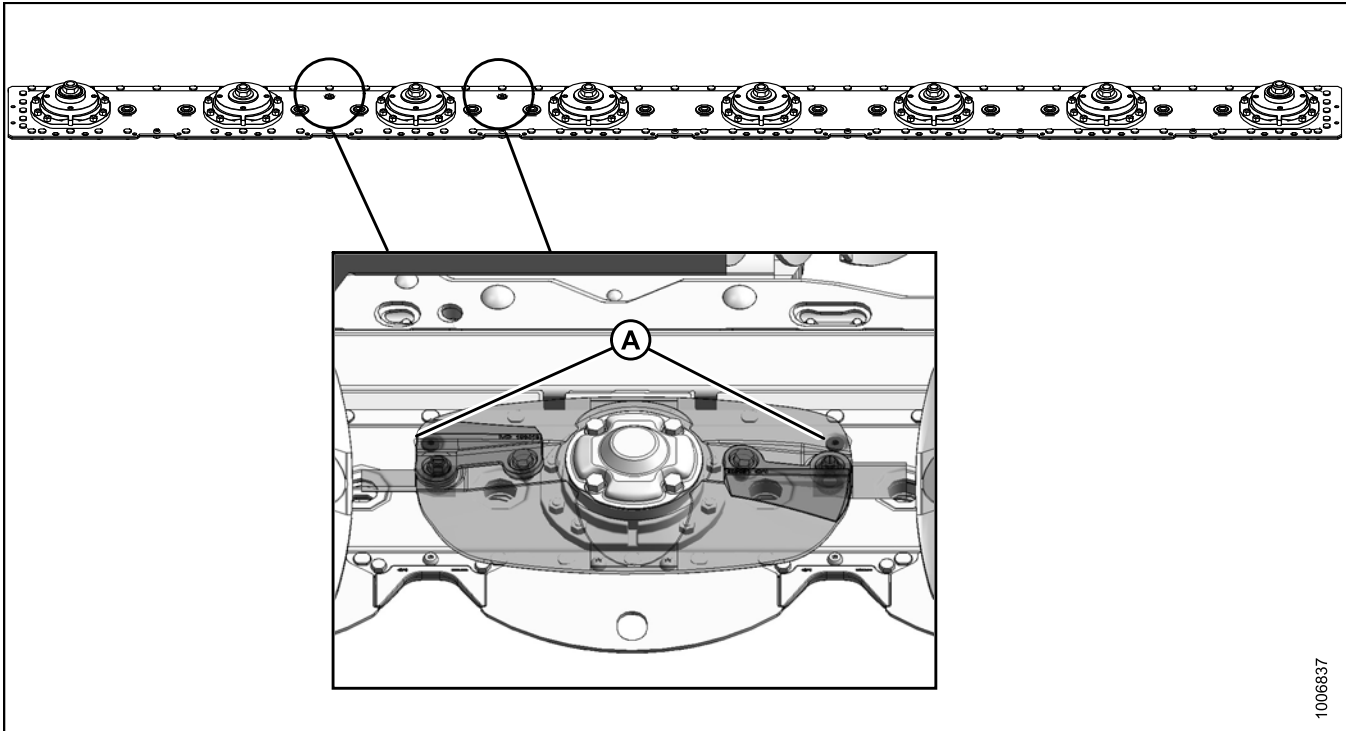

Figure 7.20: Cutterbar Filler Plug Locations
9. Locate one of the two filler plugs along the top of the cutterbar. Refer to Figure 7.20: Cutterbar Filler Plug Locations, page 116
10. Clean around either filler plug (A) and remove one plug with an 8 mm hex Allen L-key.